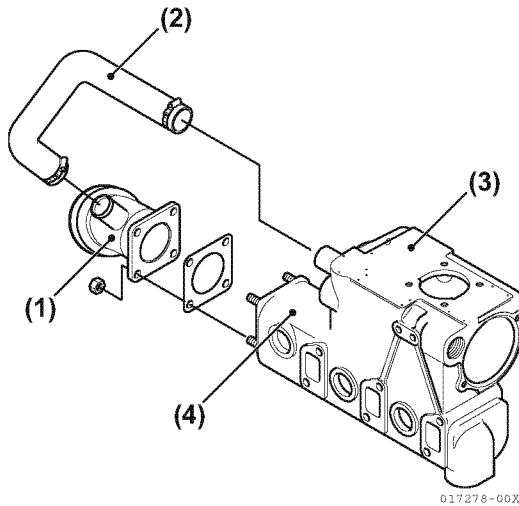
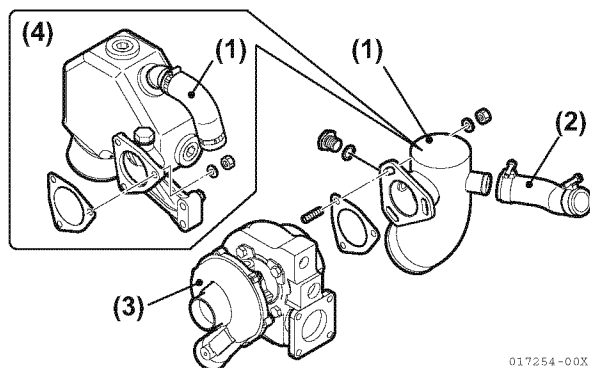

Figure 5-16
Figure 5-17
17. Remove the mixing elbow from the exhaust manifold for 3JH5E and 4JH5E (**Figure 5-16**) or from the turbocharger for 4JH4-TE and 4JH4-HTE (**Figure 5-17**).